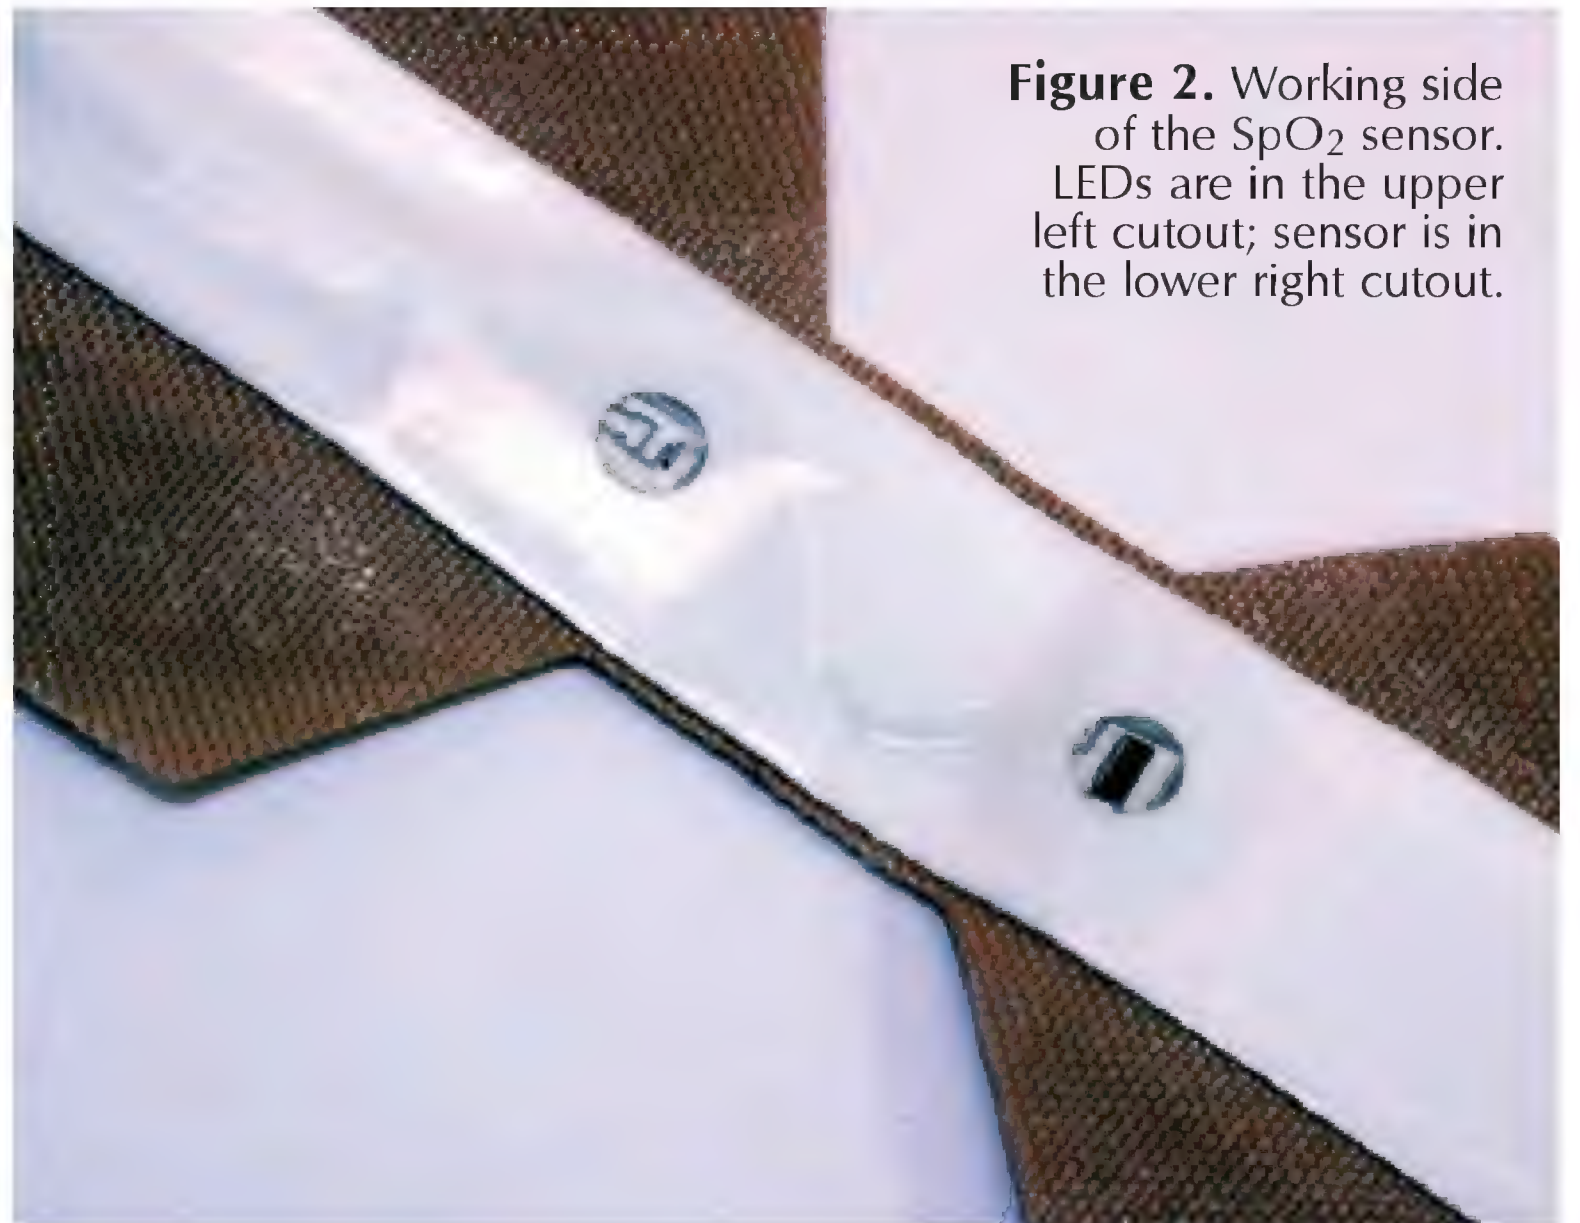
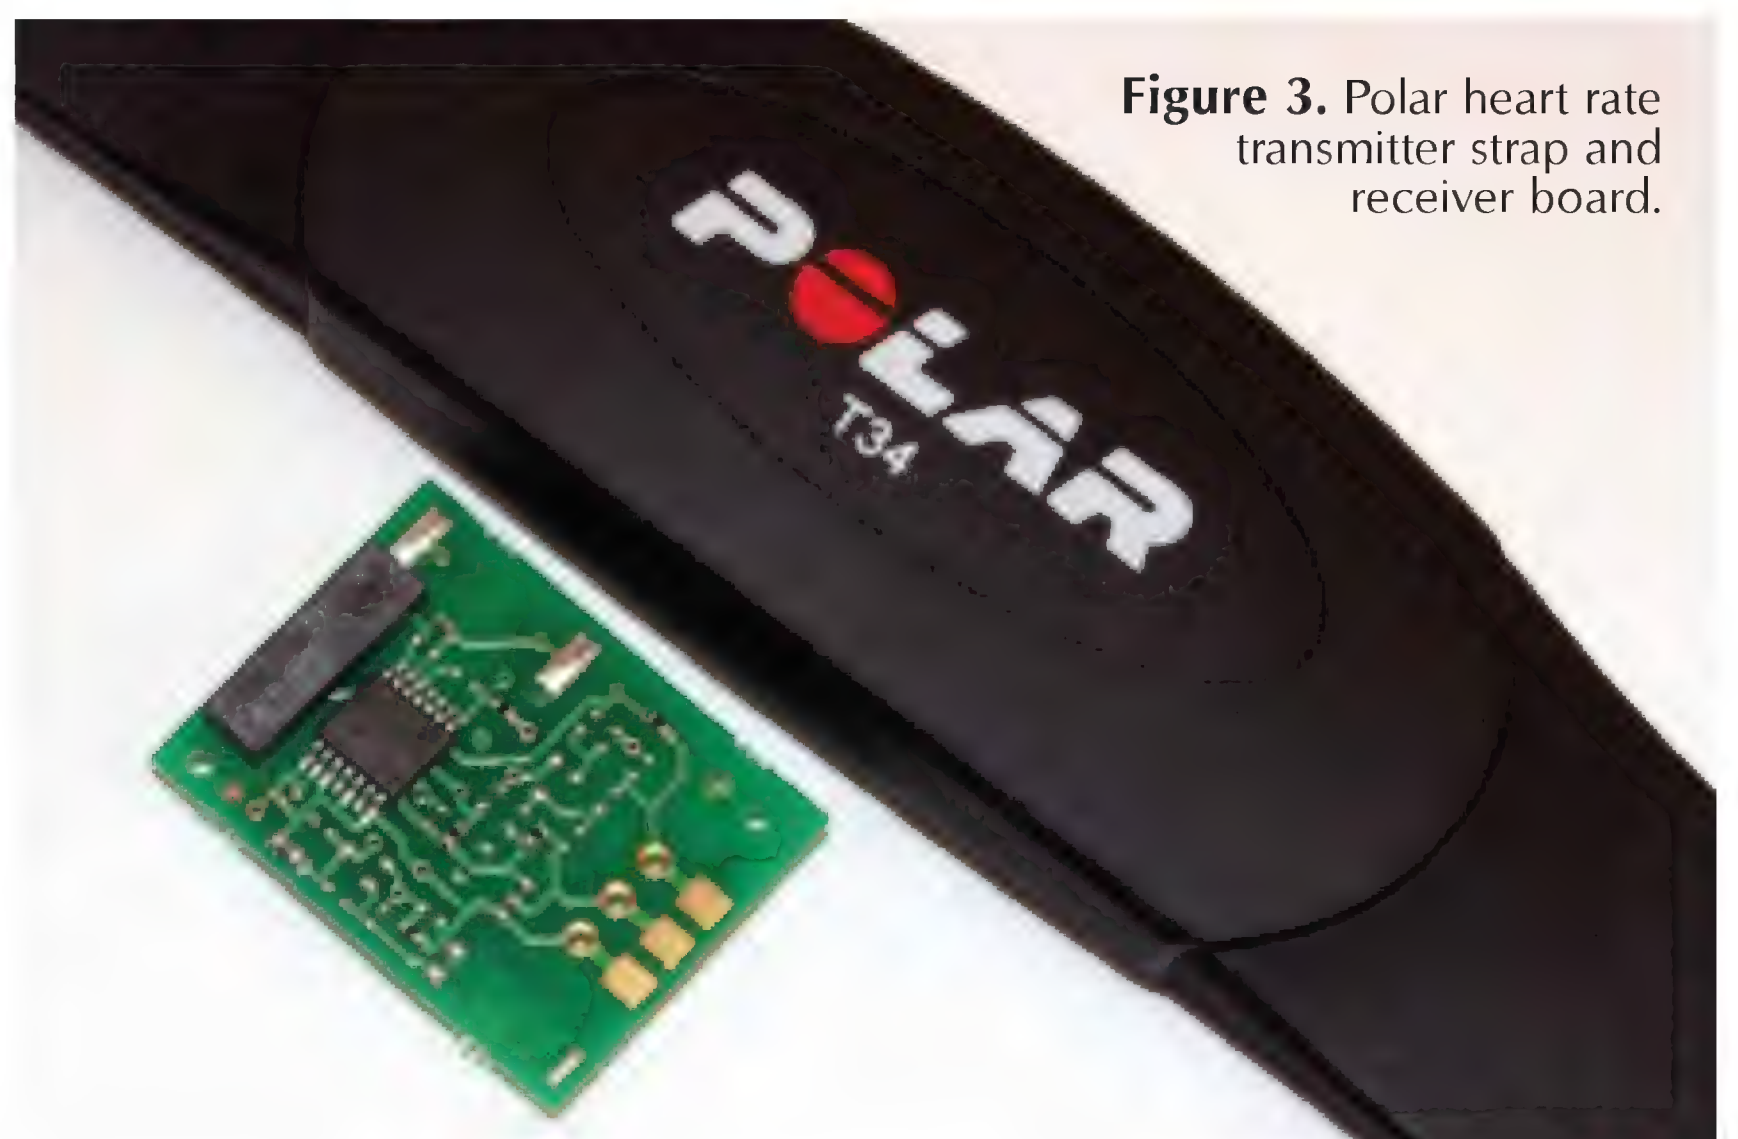

Figure 2. Working side of the SpO₂ sensor. LEDs are in the upper left cutout; sensor is in the lower right cutout.
Figure 3. Polar heart rate transmitter strap and receiver board.
Unless you're in the medical field, you may not have encountered an SpO₂ sensor. The fingertip sensor (see **Figure 2**) is a disposable adhesive unit that contains a pair of LEDs (one IR and one red) and a detector. The ratio of red/IR absorbed as light from the two LEDs travels through the tissues of a fingertip, and then indicates the degree of oxygen saturation; 98% is a typical level in a healthy person. At a full sprint, my SpO₂ drops to about 96% — the same value that an asthmatic might have at rest.
I run with a Polar T34 chest strap heart rate transmitter, so it wasn't much of a surprise. However, what did catch my eye was the matching receiver (see **Figure 3**). My previous experience with a Polar receiver was with a cumbersome 3" x 2" unit. The small, unobtrusive receiver is definitely a plus.
Before we actually design our multiplexed LED display, let's run a very simple experiment that demonstrates how multiplexing works. All we need to do is attach two discrete LEDs to two output pins as shown in the schematic in **Figure 2**. (Note that the polarity of the LEDs is reversed.) I used pins C.0 and C.1 for my experiment, but you can use different pins if you prefer. For clarity, I included the current-limiting resistors in **Figure 2**, but I actually used two resistorized LEDs (as you can see in **Figure 3**, which is a photo of my breadboard setup).
■ **FIGURE 2.** Schematic for POV experiment.
■ **FIGURE 3.** Breadboard setup for POV experiment.